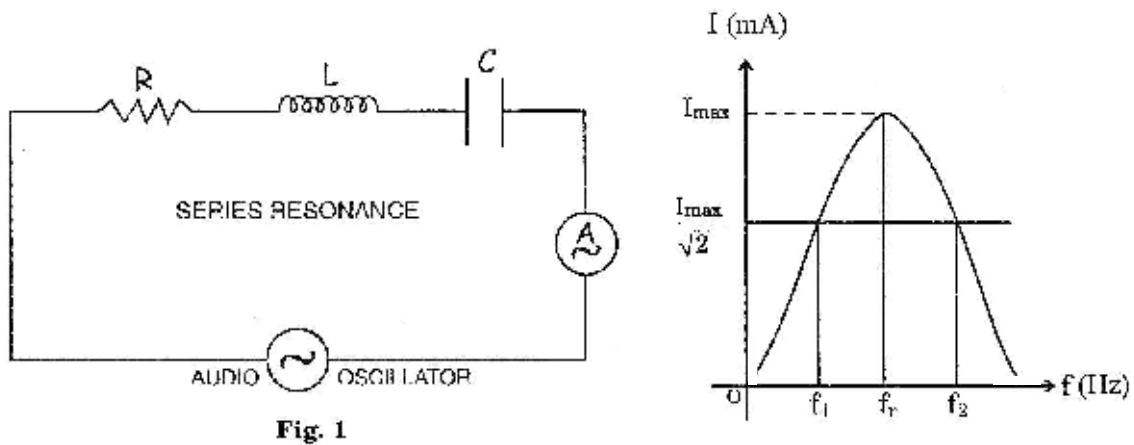

Fig. 1
- ❖ Circuit connections for series resonance are made as shown in Fig 1.